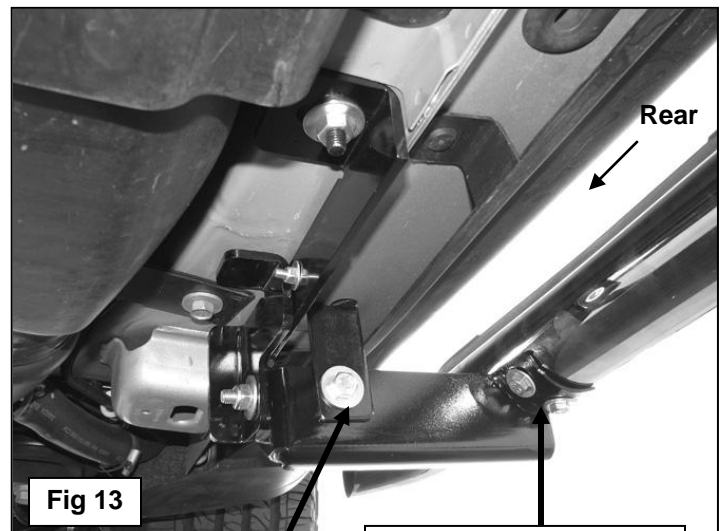

Fig 13
8. Select the left Sidebar and carefully place it in position on the (2) Mounting Brackets. Line up the threaded holes in the Sidebar with the slots in the Brackets and bolt it in place with the included (4) 8mm x 25mm Hex Bolts, (4) 8mm Lock Washers and (4) 8mm Flat Washers, **(Figure 13)**. Snug all hardware but do not tighten at this time.